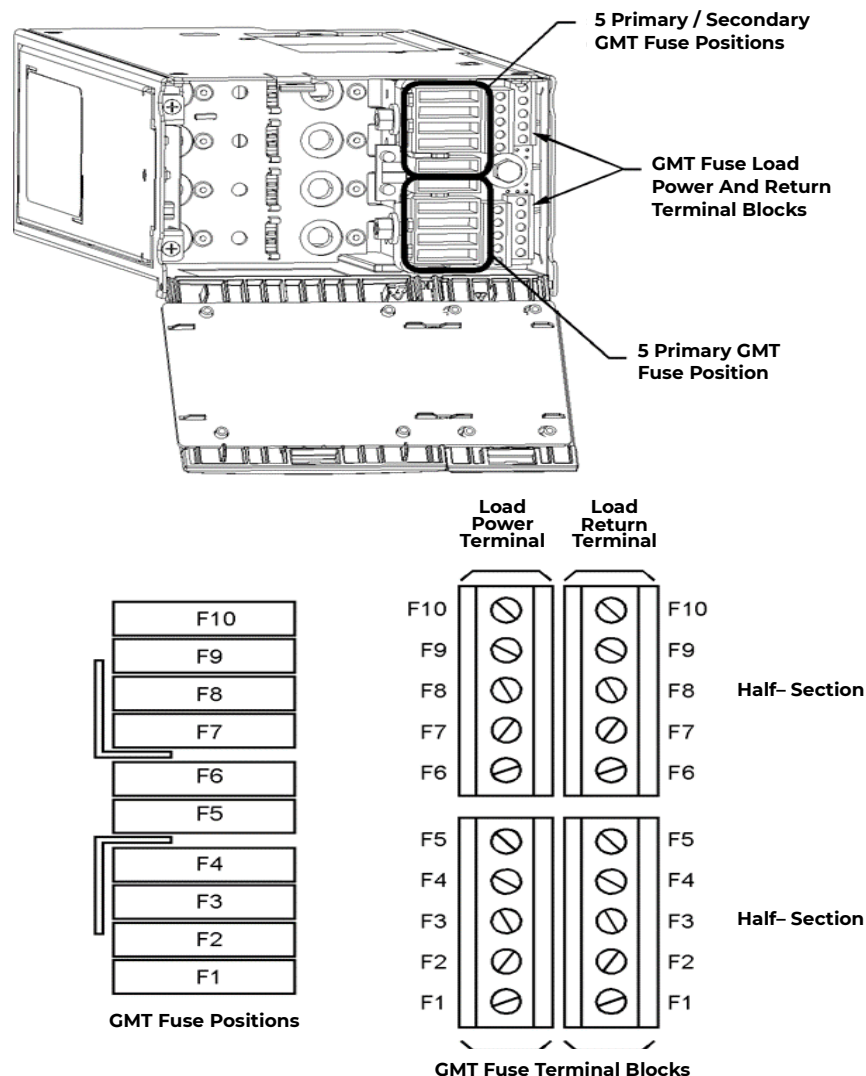
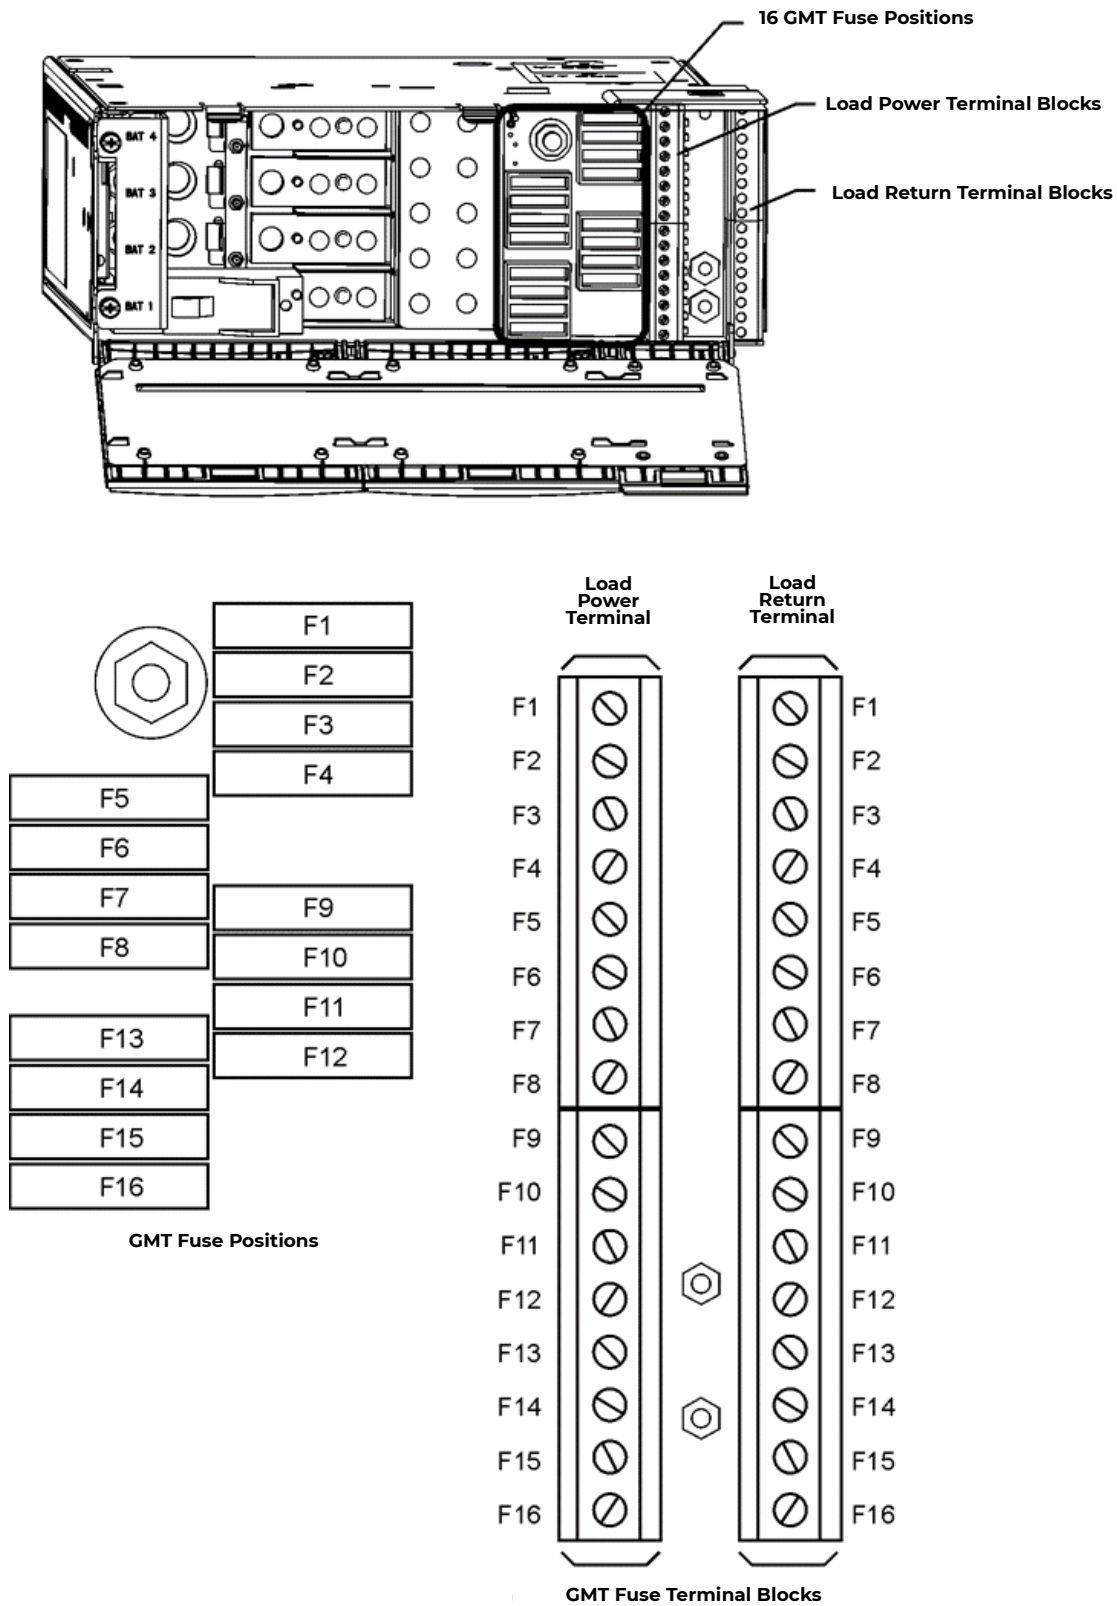

Figure 5-21: GMT Fuse Connections, Single-Slot Distribution Module
Figure 5-22: GMT Fuse Connections, Double-Slot Distribution Module
When using 20 A fuses adjacent fuse positions must be left open. No more than 80A may be carried through the 10 fuse positions, or 40A per half-section. Up to 14 AWG wire can be used to connect loads to each of the fuse positions. See Figure 5-21 for fuse position and terminal block designations.
The 16 GMT fuse position terminal blocks will accommodate 10 AWG wire. Each fuse board (A and B) has 8 GMT positions and is sized to handle up to 80A of total current and can support up to four 20 amp fuses if spaced properly. If 20A fuses are used, then adjacent fuse positions must be left empty. See Figure 5-22 for fuse position and terminal block designations.
2.	Insert the stripped wire through the side of the shelf and into the screw terminal. Torque to 4.5 in. lbs (0.5 Nm). See Figure 5-21 for Single-Slot, and Figure 5-22 for Double-Slot Distribution Modules.